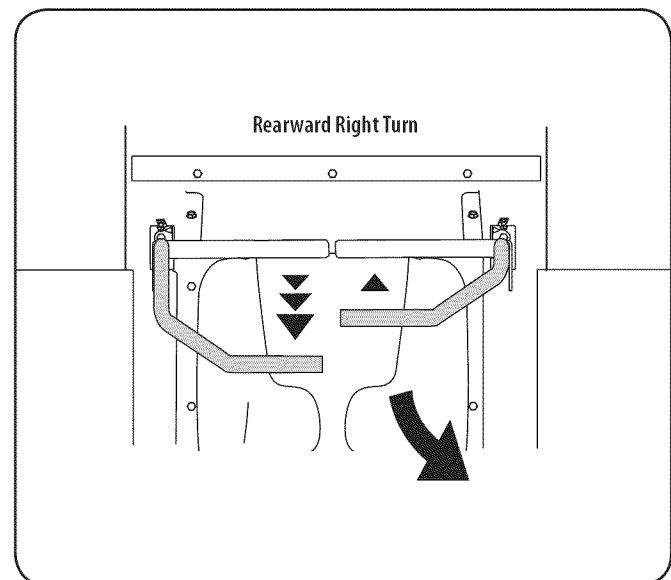

Figure 7
2. To turn to the right while traveling in reverse, move the right drive control lever forward of the left lever. See Figure 7.